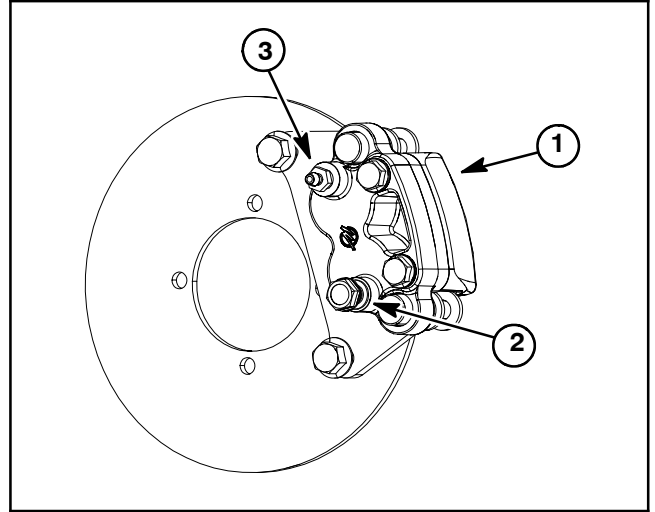
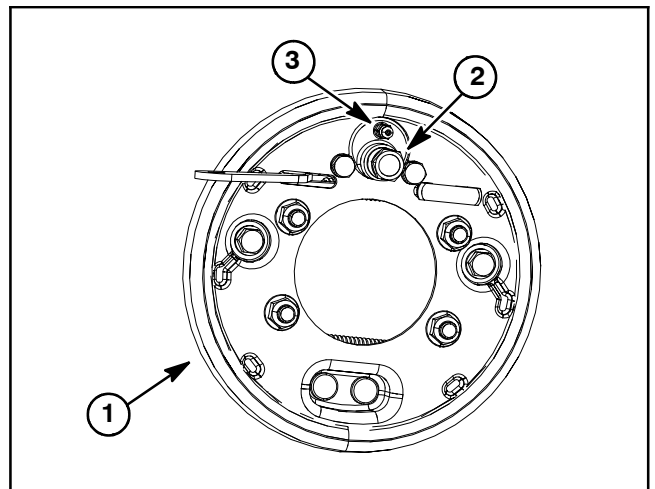

Figure 31
Figure 32
1. Connect a suitable transparent hose to bleeder valve on front brake caliper (Fig. 31) or rear wheel brake cylinder (Fig. 32). Submerge other end of hose in a glass container partially filled with clean brake fluid.